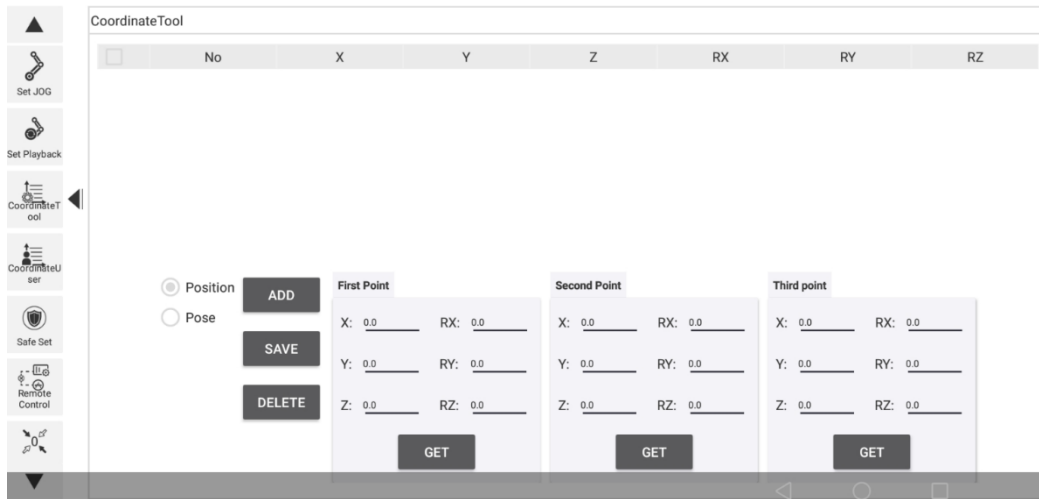

Figure 5.10 Tool Coordinate page
- Step 2** Click **Tool coordinate** on the **Setting** page. As shown Figure 5.10.